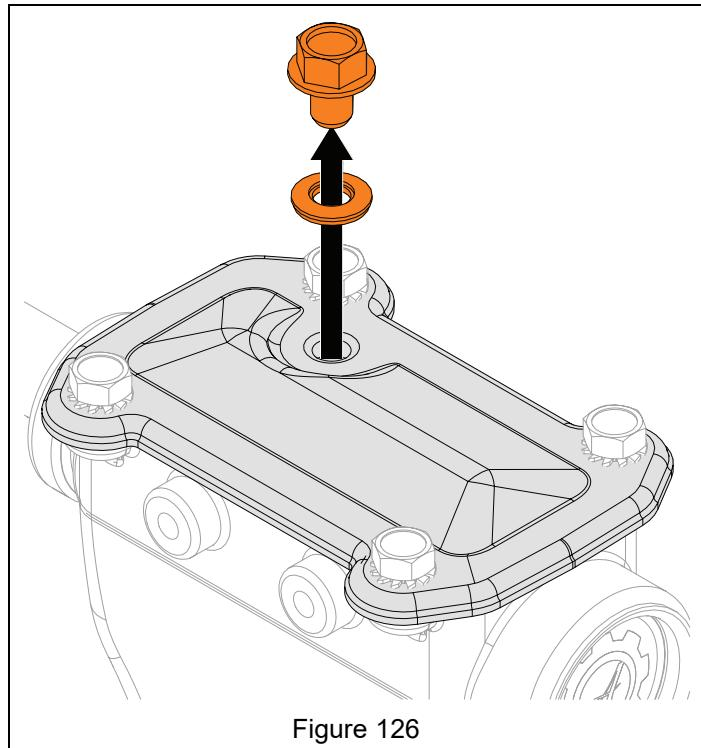

Figure 126
3. Remove drain plug and seal washer from gearcase. See Figure 126.